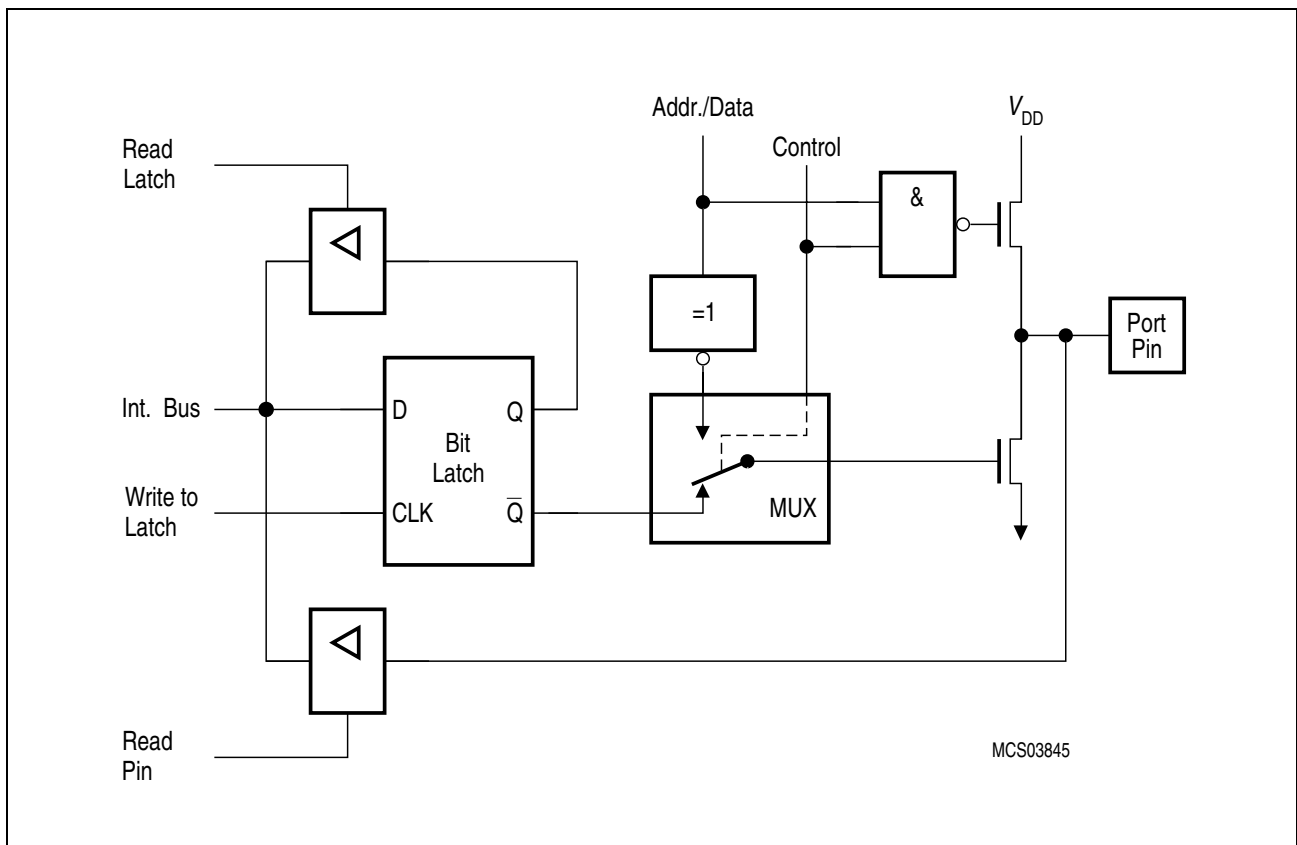
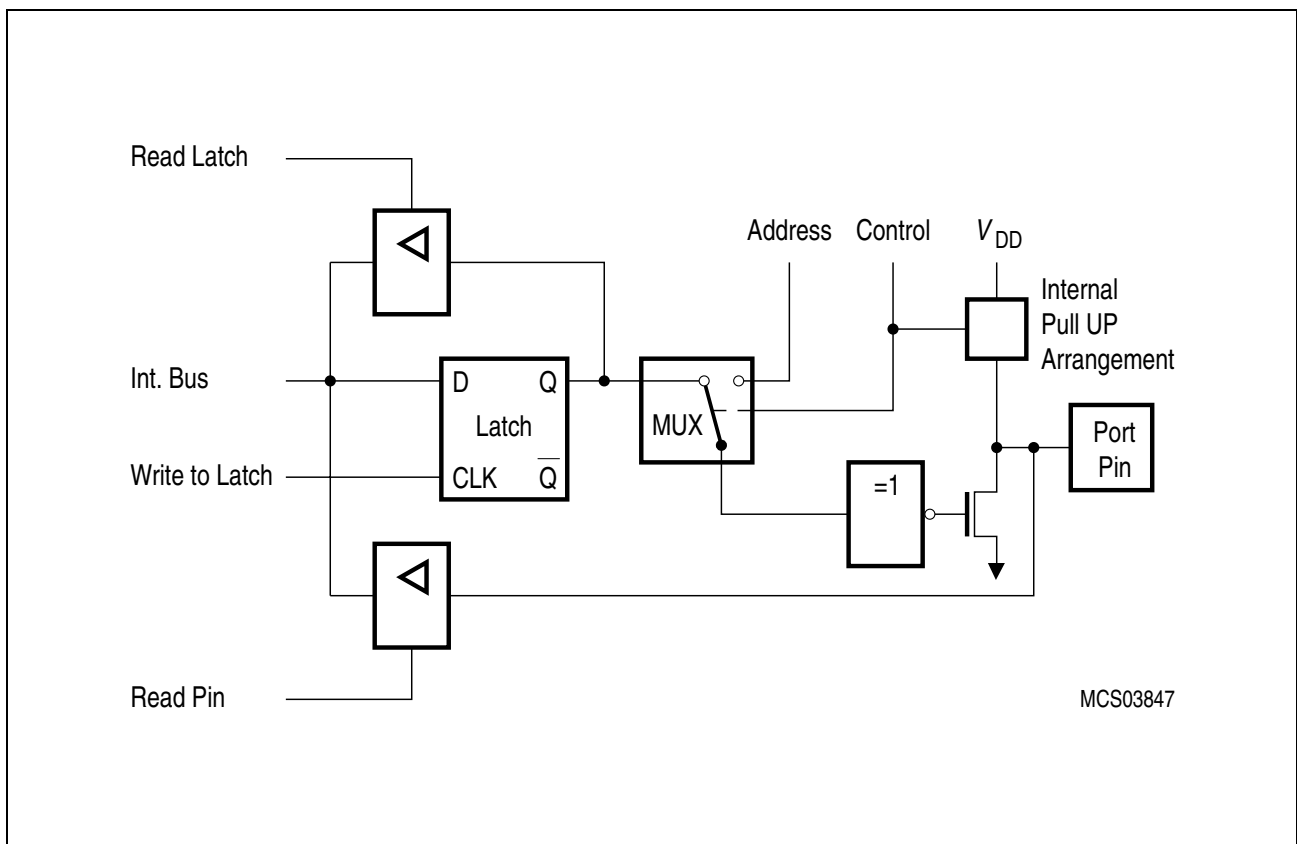
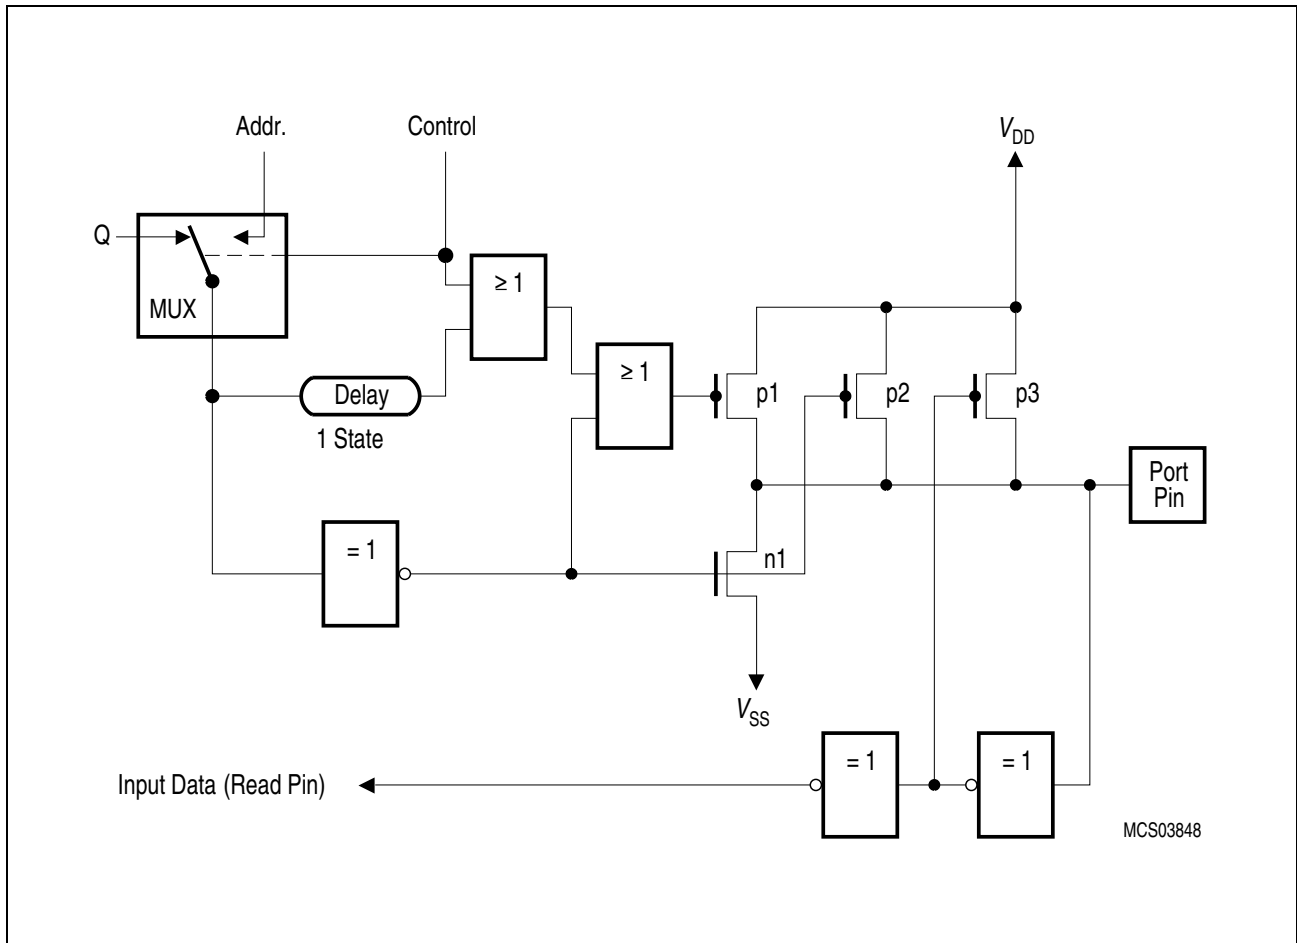

Figure 6-3
Figure 6-5
Figure 6-5a
Port 0, in contrast to ports 1 to 5, is considered to be a “true” bidirectional, because the port 0 pins float when configured as inputs. Thus, this port differs in not having internal pull-ups. The pull-up FET in the P0 output driver (see **Figure 6-3**) is used only when the port is emitting 1s during external memory accesses. Otherwise, the pull-up is always off. Consequently, P0 lines that are used as output port lines are open drain lines. Writing a 1 to the port latch leaves both output FETs off and the pin floats. In that condition, the pin can be used as high-impedance input. If port 0 is configured as general I/O port and has to emit logic high-level (1), external pull-ups are required.
As shown in **Figure 6-3** and **Figure 6-5**, the output drivers of ports 0 and 2 can be switched to an internal address or address/data bus for use in external memory accesses. In this application these ports cannot be used as general purpose I/O, even if not all address lines are used externally. The switching is done by an internal control signal dependent on the input level at the \overline{EA} pin and/or the contents of the program counter. If the ports are configured as an address/data bus, the port latches are disconnected from the driver circuit. During this time, the P0/P2 SFR remains unchanged. Since it is an address/data bus, port 0 uses a pull-up FET as shown in **Figure 6-3**. When a 16-bit address is used, port 2 uses the additional strong pull-up p1 (**Figure 6-5a**) to emit 1s for the entire external memory cycle instead of the weak 1s (p2 and p3) used during normal port activity.